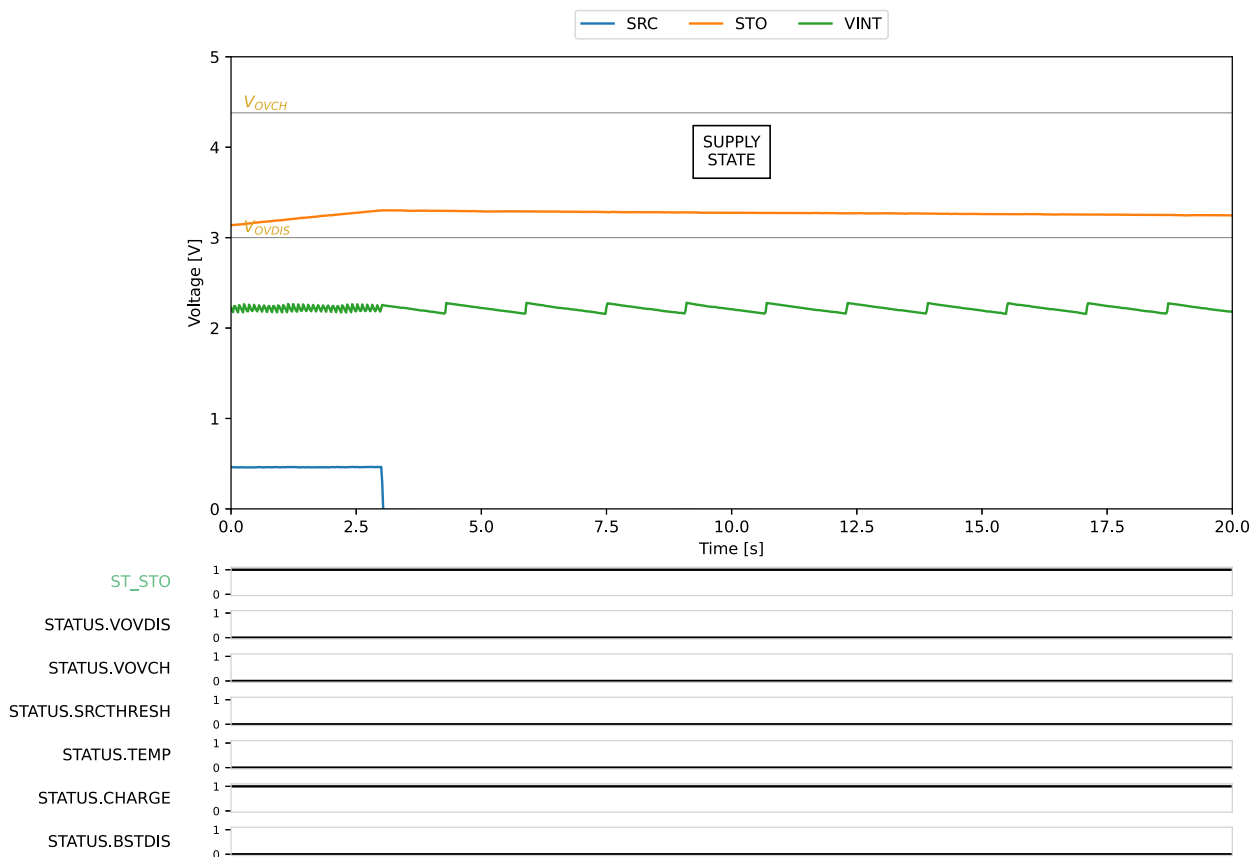
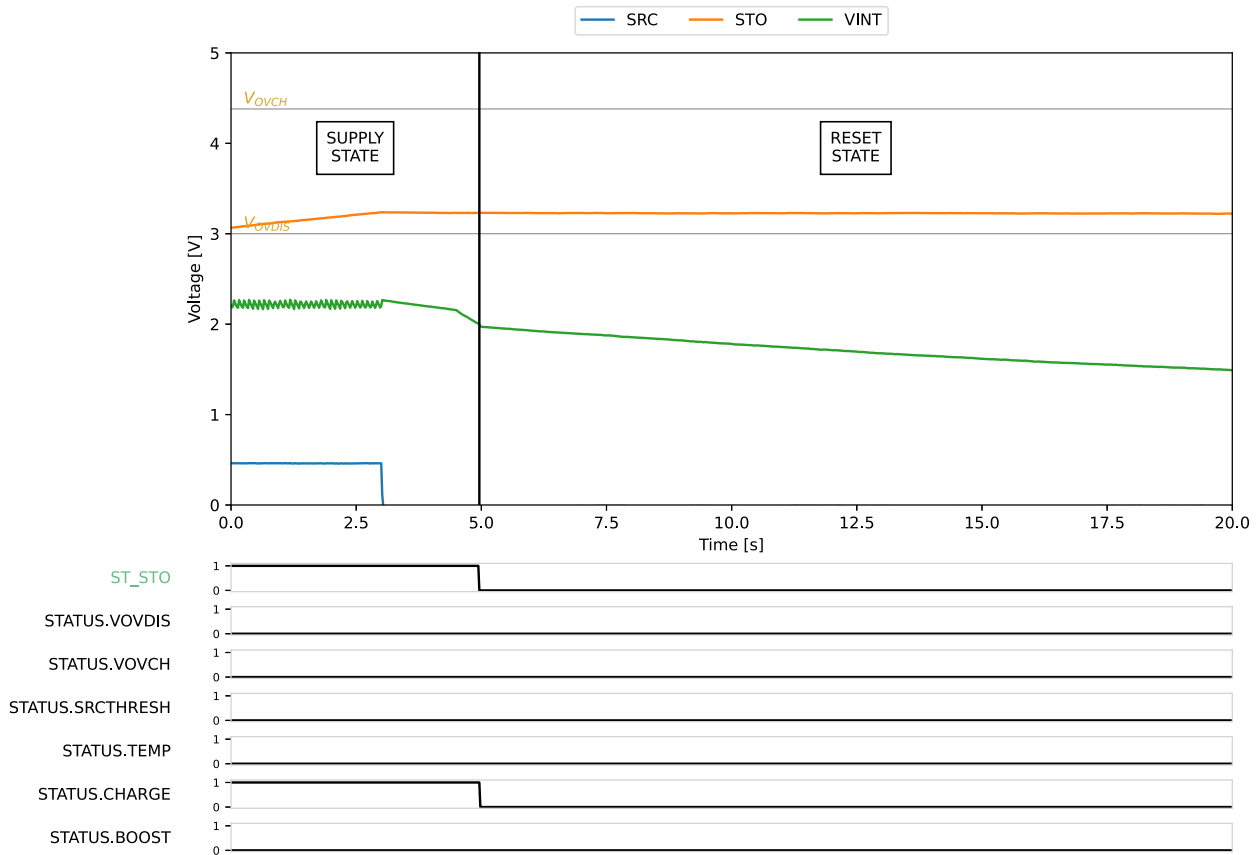

Figure 5: KEEP\_ALIVE HIGH behavior
Figure 6: KEEP\_ALIVE LOW behavior
- KEEP\_ALIVE: is enabled on Figure 5 and disabled on Figure 6.
- KEEP\_ALIVE = H (Keep-alive enabled, Figure 5): the AEM0090x switches to **SLEEP STATE**, so **VINT** keeps being supplied from the storage element connected to **STO**. The AEM0090x will be able to harvest again as soon as power is restored to the **SRC** pin. On the other hand, a small current is pulled from the storage element ( $I_{QSLEEP}$ , see Table 3).
- KEEP\_ALIVE = L (Keep-alive disabled, Figure 6): **VINT** can only be supplied from the energy available on **SRC**, so as soon as the power source is switched off, **VINT** stops being supplied. The AEM0090x switches to **RESET STATE**, so that no current is pulled from the storage element. The stored energy is thus preserved. On the other hand, when power is restored to the **SRC** pin, the AEM0090x must perform a cold start to resume harvesting.